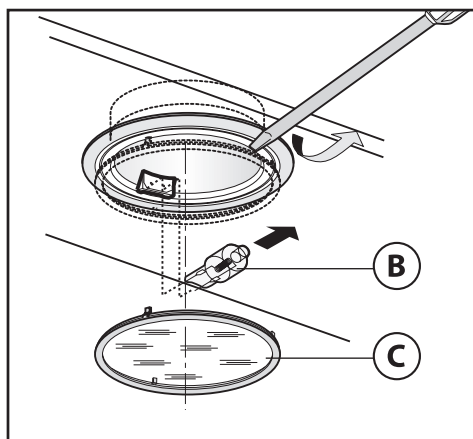

Fig.8
4.2 Replacing halogen light bulbs (Fig.8): 10
4.2 Replacing halogen light bulbs (Fig.8):